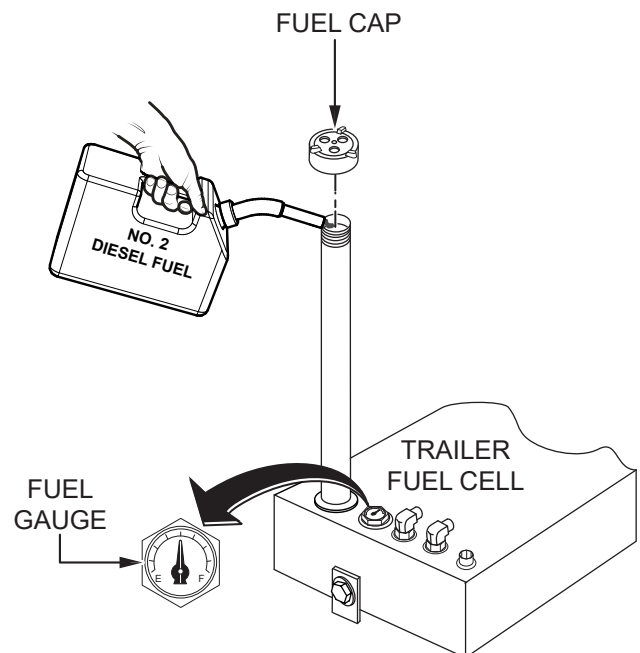

Figure 10. Fuel Inspection
1. Read the **fuel gauge** located at the front of the trailer (Figure 10) to determine the engine fuel level. If the fuel level is low, remove the fuel cap and fill with the recommended diesel fuel shown in Table 2. **DO NOT** overfill.